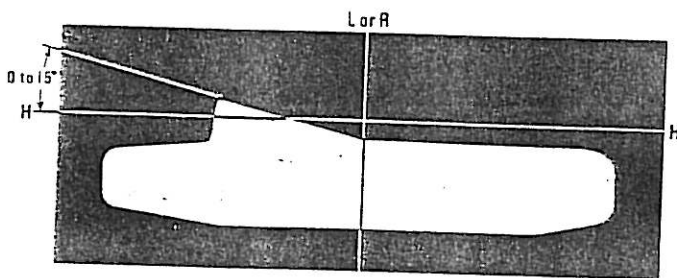

Fig. 8
- European asymmetric dipped beam Fig. 8